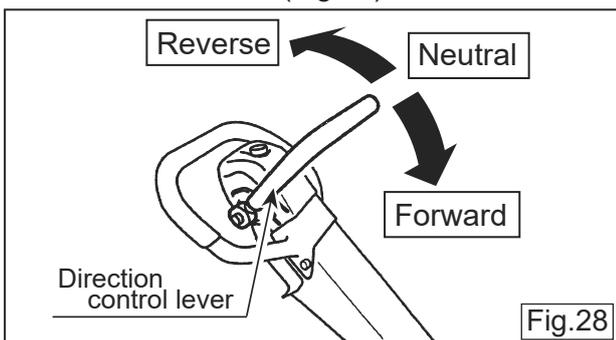

Fig.28
- Use the back and forth movement direction control lever to make the machine move backward and forward. When the direction control lever is pushed forward, the machine moves forward, when pulled backward, the machine moves backward. At neutral, the machine vibrates staying at the same location.(Fig.28)